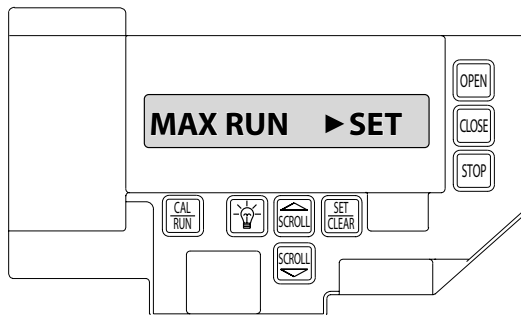

Fig. 5
- 2) Press SCROLL (up or down) until display reads "MAX RUN TMR > SET." Fig. 5